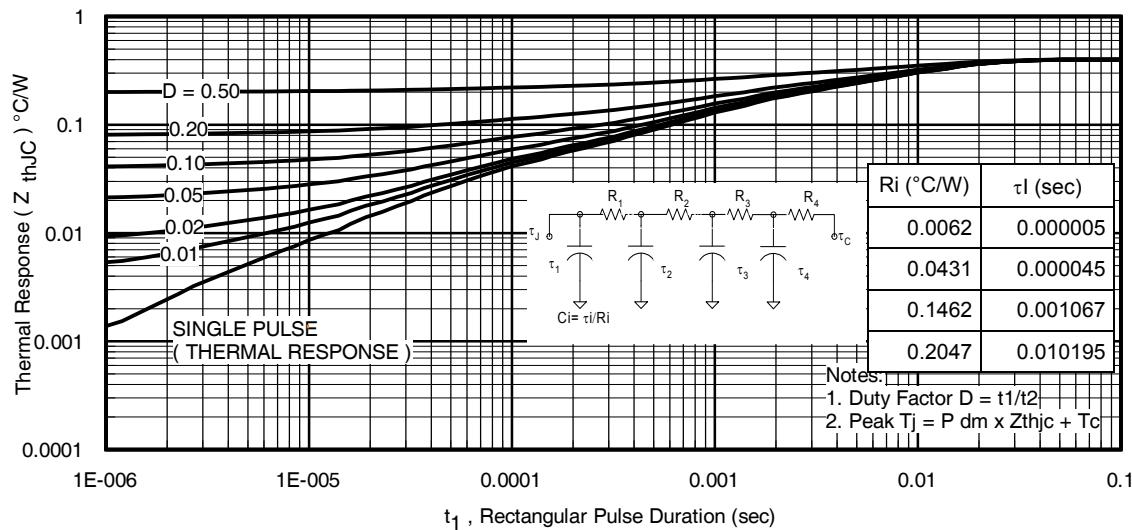

Fig 13. Maximum Effective Transient Thermal Impedance, Junction-to-Case
7. ΔT = Allowable rise in junction temperature, not to exceed T_{jmax} (assumed as 25°C in Figure 13, 14).
$Z_{thJC}(D, tav)$ = Transient thermal resistance, see Figures 13)